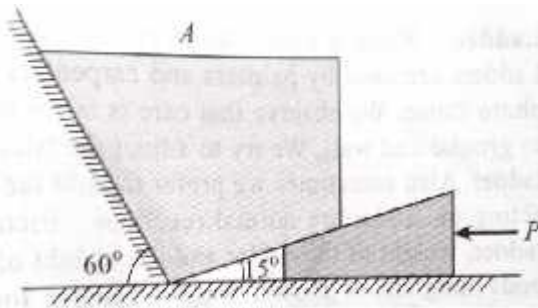

fig:7
7. Determine the force P required to (a) move the block A of weight 5000 N up the inclined plane, (b) maintain the equilibrium as shown in fig:7, when coefficient of friction between all contact surfaces is 0.25.